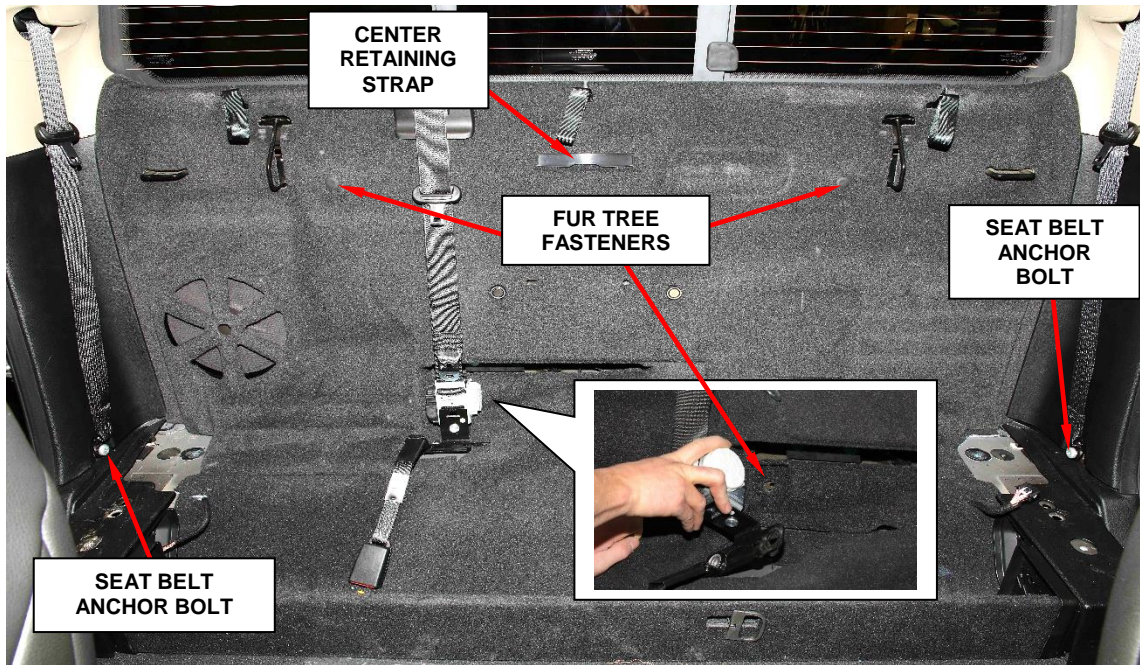

Figure 8 – Rear Cab Trim Panel
- Remove the three push-pin fasteners and the center retaining strap that secure the rear cab trim panel to the rear cab back panel and remove the trim panel (Figure 8).
1. Position the rear cab trim panel to the rear cab back panel and install the push-pin fasteners and the center retaining strap (Figure 8).
2. Install the rear center seat belt retractor/anchor bolt and tighten the bolt to 48 N·m (35ft. lbs.) (Figure 8).
9. Remove the three push-pin fasteners and the center retaining strap that secure the rear cab trim panel to the rear cab back panel and remove the trim panel (Figure 8).